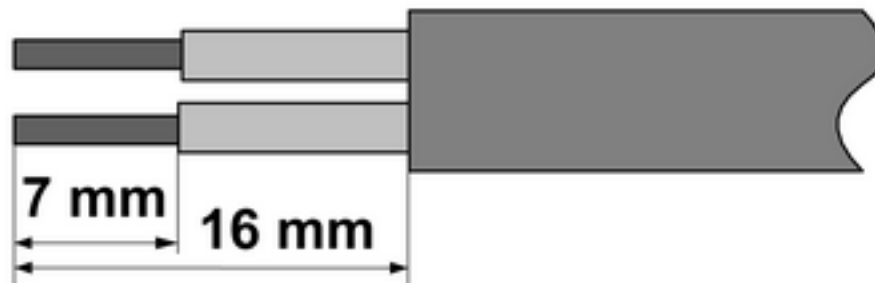

Figure 3: Stripping lengths
- Strip connecting cables according to specifications (Figure 3).